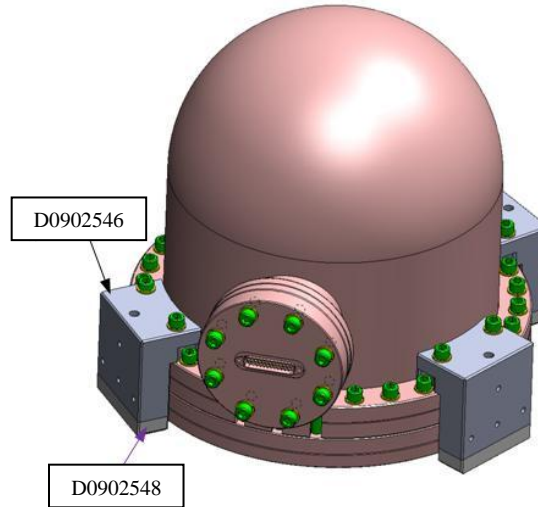

Figure 80: D0900648 Trillium Pod Assembly with (3) D0902547 Trillium Slider Feet on
(2) 1/4 Vented Washers - UCC-WFV-25
- Attach D0902547 Trillium Pod Slider to D0900648 Trillium Pod Assembly as shown on Figure 80.